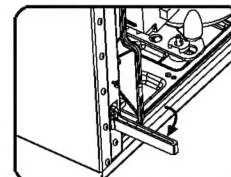

Fig. 2
Step 3: In the unpacked product, the back stopper is vertical which has to be rotated in anti-clockwise direction & should be kept perpendicular to the cabinet as shown in fig 2.
- Back stopper (page 8 figure 2) has to be moved to vertical position.